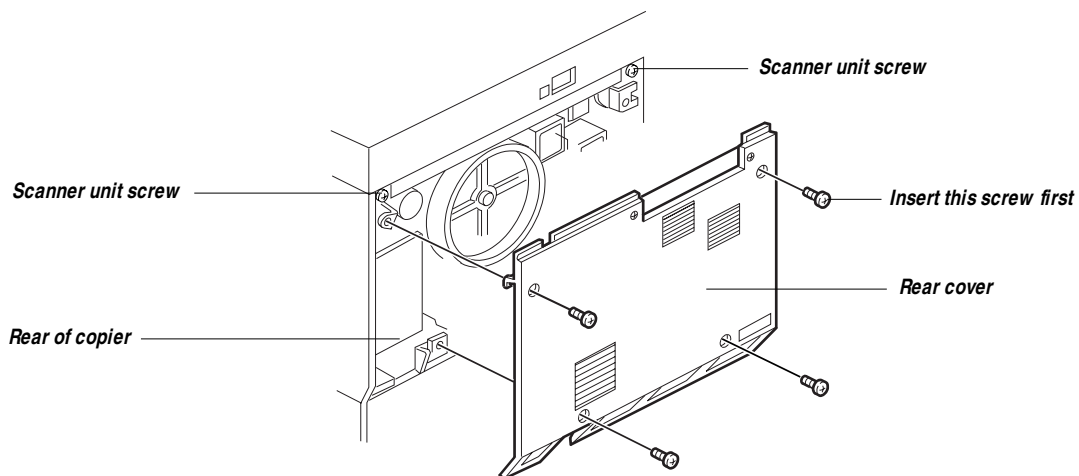

Figure 3-18 Replacing the rear cover
1. *Replace the two scanner unit screws at the rear of the copier. These two screws secure the scanner unit to the copier (see Figure 3-18).*